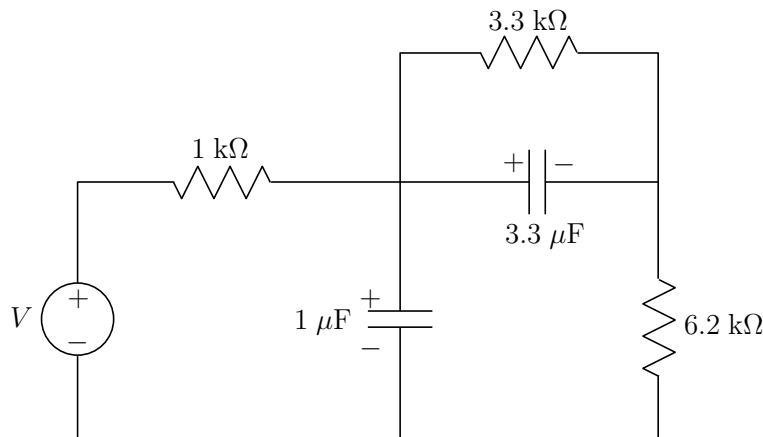

Figure 4.1: The capacitor voltage and current circuit.
3. Looking at the circuit in Figure 4.1 with V set to 10 V DC, calculate the voltage across each capacitor. For the same DC power supply, calculate the energy stored in each capacitor.
1. Build the circuit shown in Figure 4.1 and, using your DC power supply, set V equal to 10 V. (Remember to color-code your circuit!)